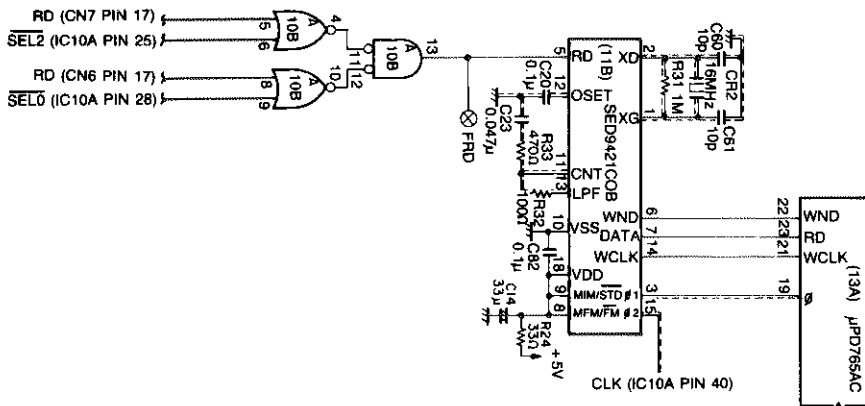

FIGURE 2-64. SED9421COB VFO CIRCUIT
The SED9421COB variable frequency oscillator (VFO) at 11B (Figure 2-64) separates the data and clock pulses from the raw data read from the disk. Data received from the active drive via the select circuit at IC 10B is input to the VFO at pin 5, where the window (WND) and data (RD) signals are separated before being input to the 765 at pins 22 and 23, respectively. The VFO is also responsible for generating all timing signals for the FDC and GAFDDC chips. The clock signal used for all output timing signals (WCLK, 01 and 02) is generated by an internal oscillator circuit, and its frequency (16 MHz) is set by crystal CR2. (Refer to Table 2-34, and Chapter 6 for more details on the VFO integrated circuit.)